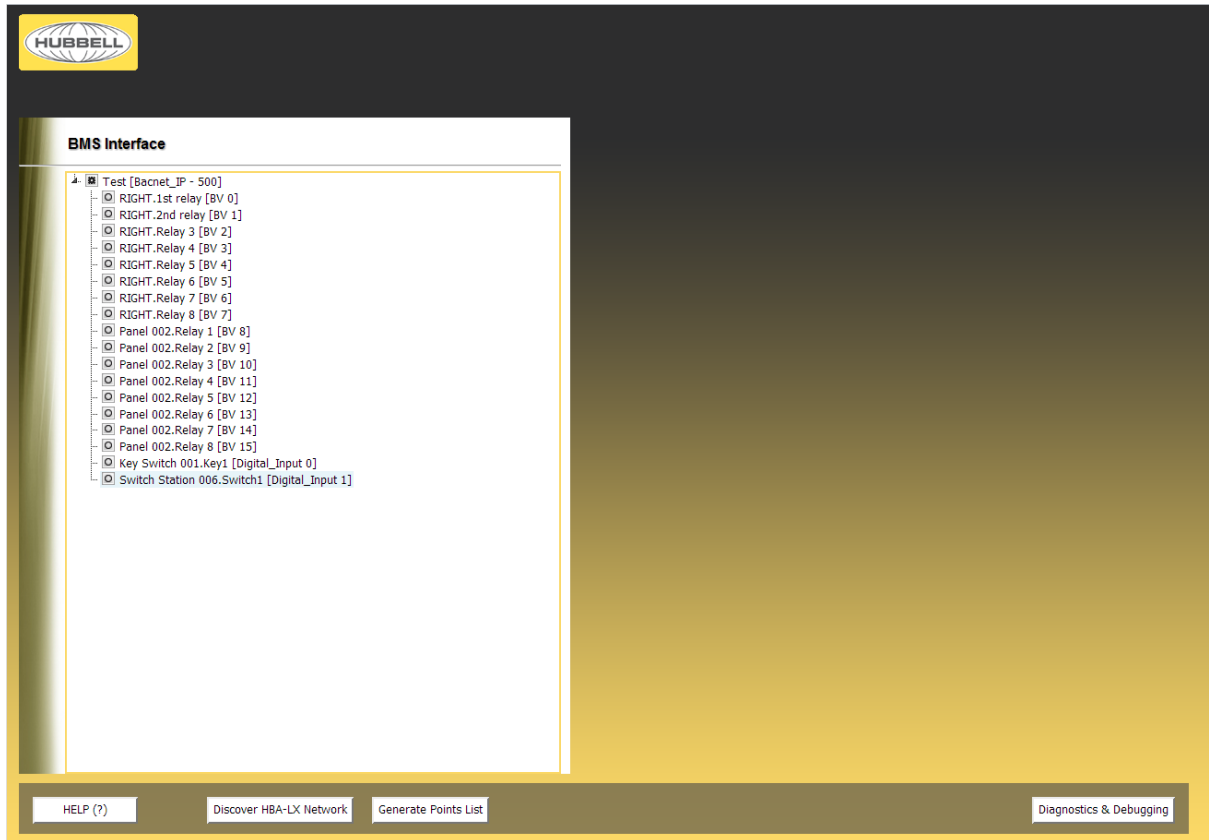

Figure 9: Sample BMS Interface Settings GUI window
- To generate points list, Press the Generate points list Button shown in Figure 9.
- From the BMS Interface page, click on Diagnostic and Debugging button (see Figure 9) to access the Diagnostic and Debugging Screen.